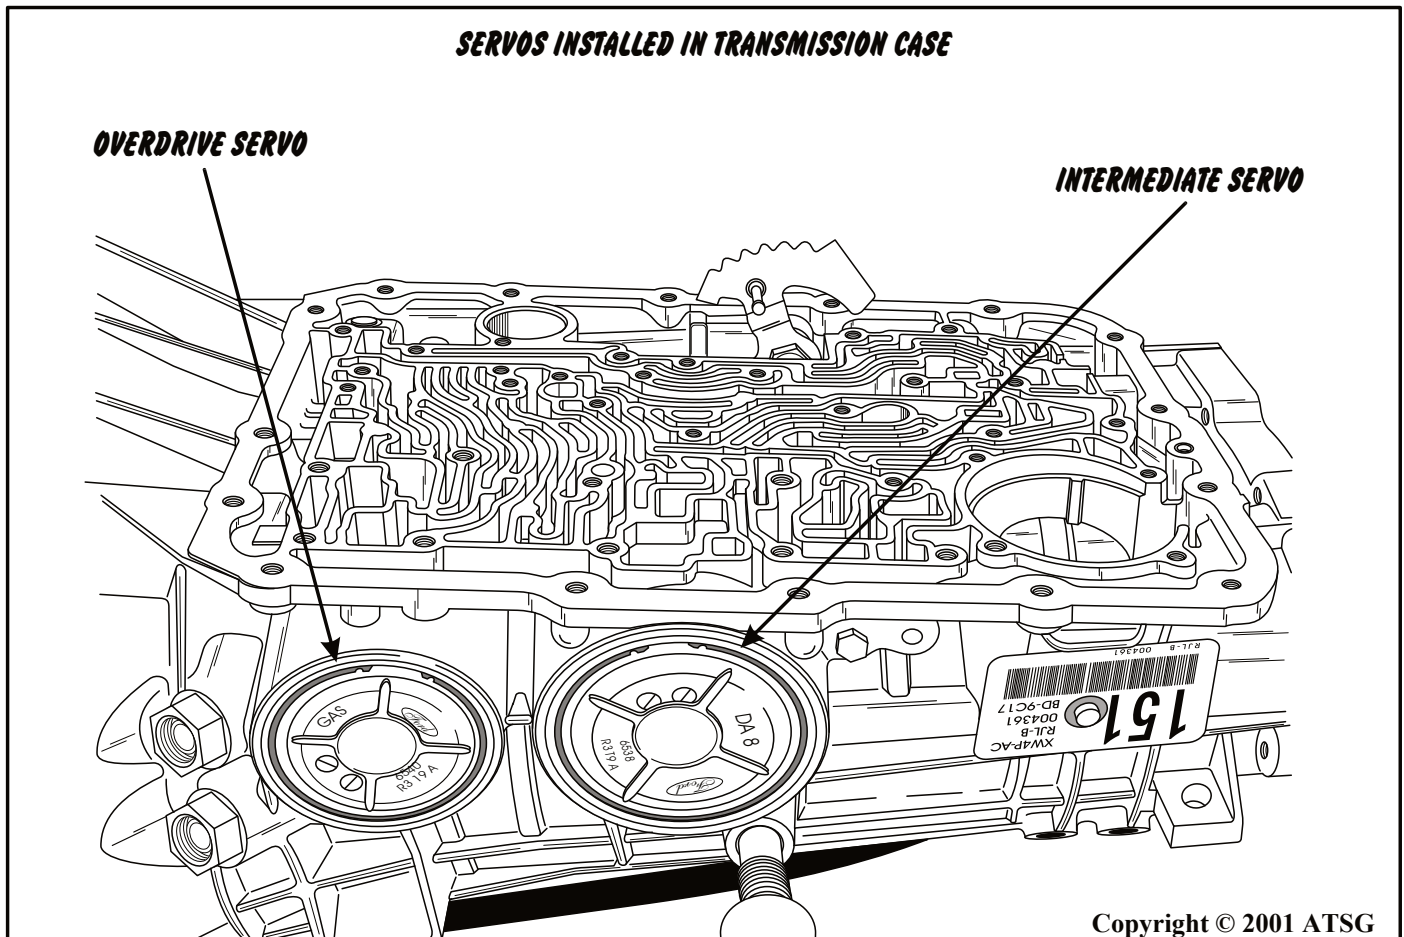

Figure 133
6. Install the transmission case into the fixture and rotate so that pan surface is facing up, as shown in Figure 133.
10. Install the overdrive servo cover assembly into the case bore, compress the return spring and install the snap ring (See Figure 133).
16. Install the intermediate servo assembly into the case bore, compress the return spring and install the snap ring (See Figure 133).